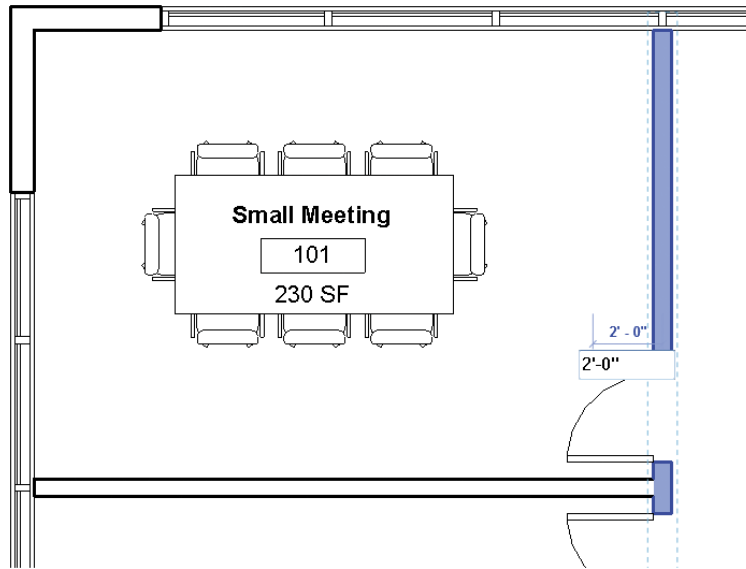

FIGURE 8.6 Moving the wall
9. Select the wall at the right edge of the Small Meeting room, as shown in Figure 8.6, and move it 2'-0" (600 mm) to the left.